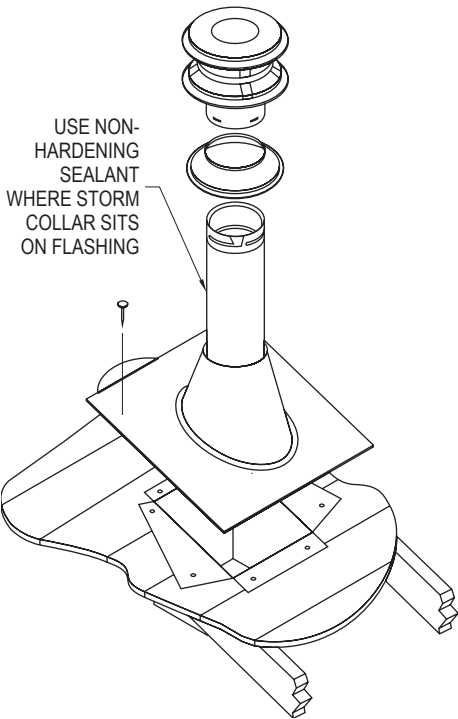

Figure 24
11. Slip the Flashing over the pipe section(s) protruding through the roof. Secure the base to the roof with roofing nails as shown in **Figure 24**. Insure that the roofing material overlaps the top edge of the Flashing (**Refer to Figure 2**).